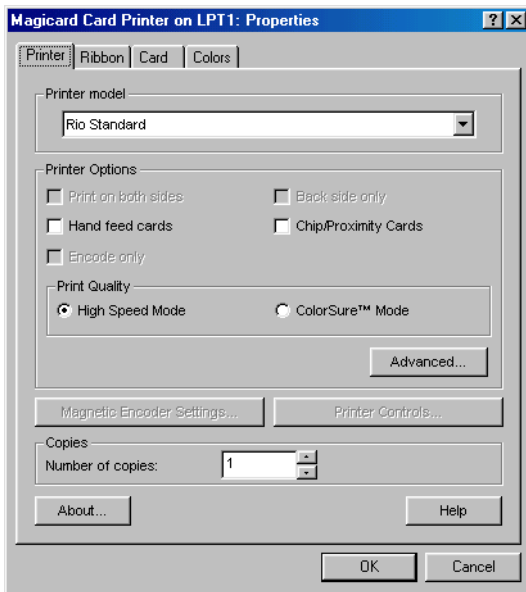

Figure 6: Printer Configuration Options – Printer Tab
4. Click the Properties... button. The printer control window appears displaying the printer configuration options beginning with the Printer Tab (see Figure 6 on page 7).
6. Based on this selection, certain options are enabled in the “Printer Options” and “Print Quality” fields according to the features within the printer (see Figure 6). Of these options, enable those that apply to your printer’s capabilities and your printing requirements. For example, if you have a Tango Printer (capable of printing on both sides of a card), you may want to enable the “Print on both sides” feature for two-sided card printing.